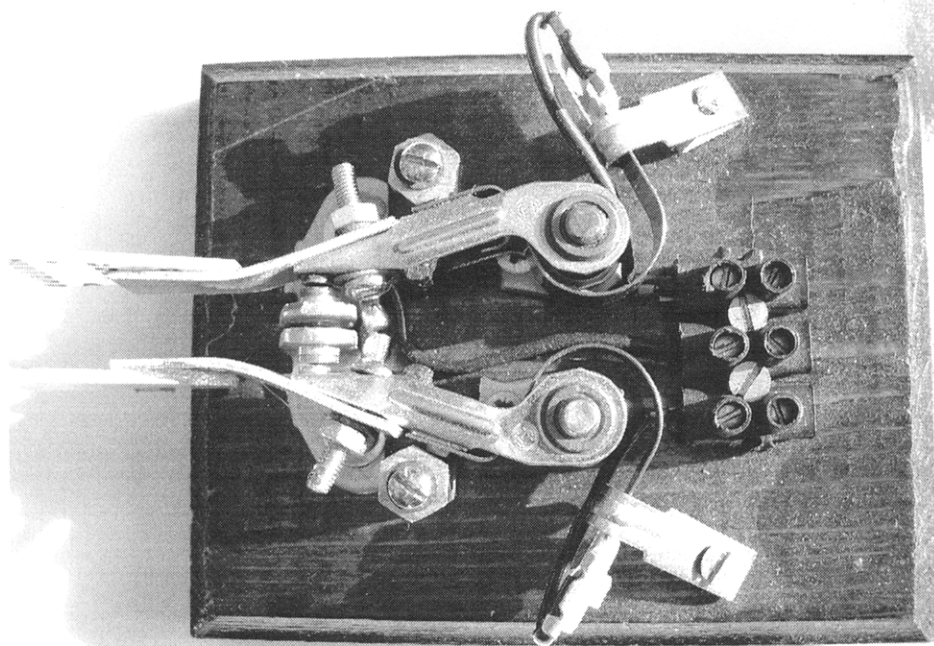

Fig 1
In Fig. 1, I use the internal oscillator of the 74HC4060 as a VFO on about 10MHz. Varicap tuning is accomplished with a standard 5mm red LED as before. In this circuit I used a transistor with a few diodes and resistors to implement the function of XOR gate! The 1st and 8th outputs of the shift register are compared therefore the effective length of the delay line is 7 stages. The crystal reference frequency should be as high as possible: I used a canned oscillator. They can often be recovered from old computer boards.
3. Cut (hacksaw) the bottom part acc. to fig 1(dotted lines) and drill a 3 mm hole.